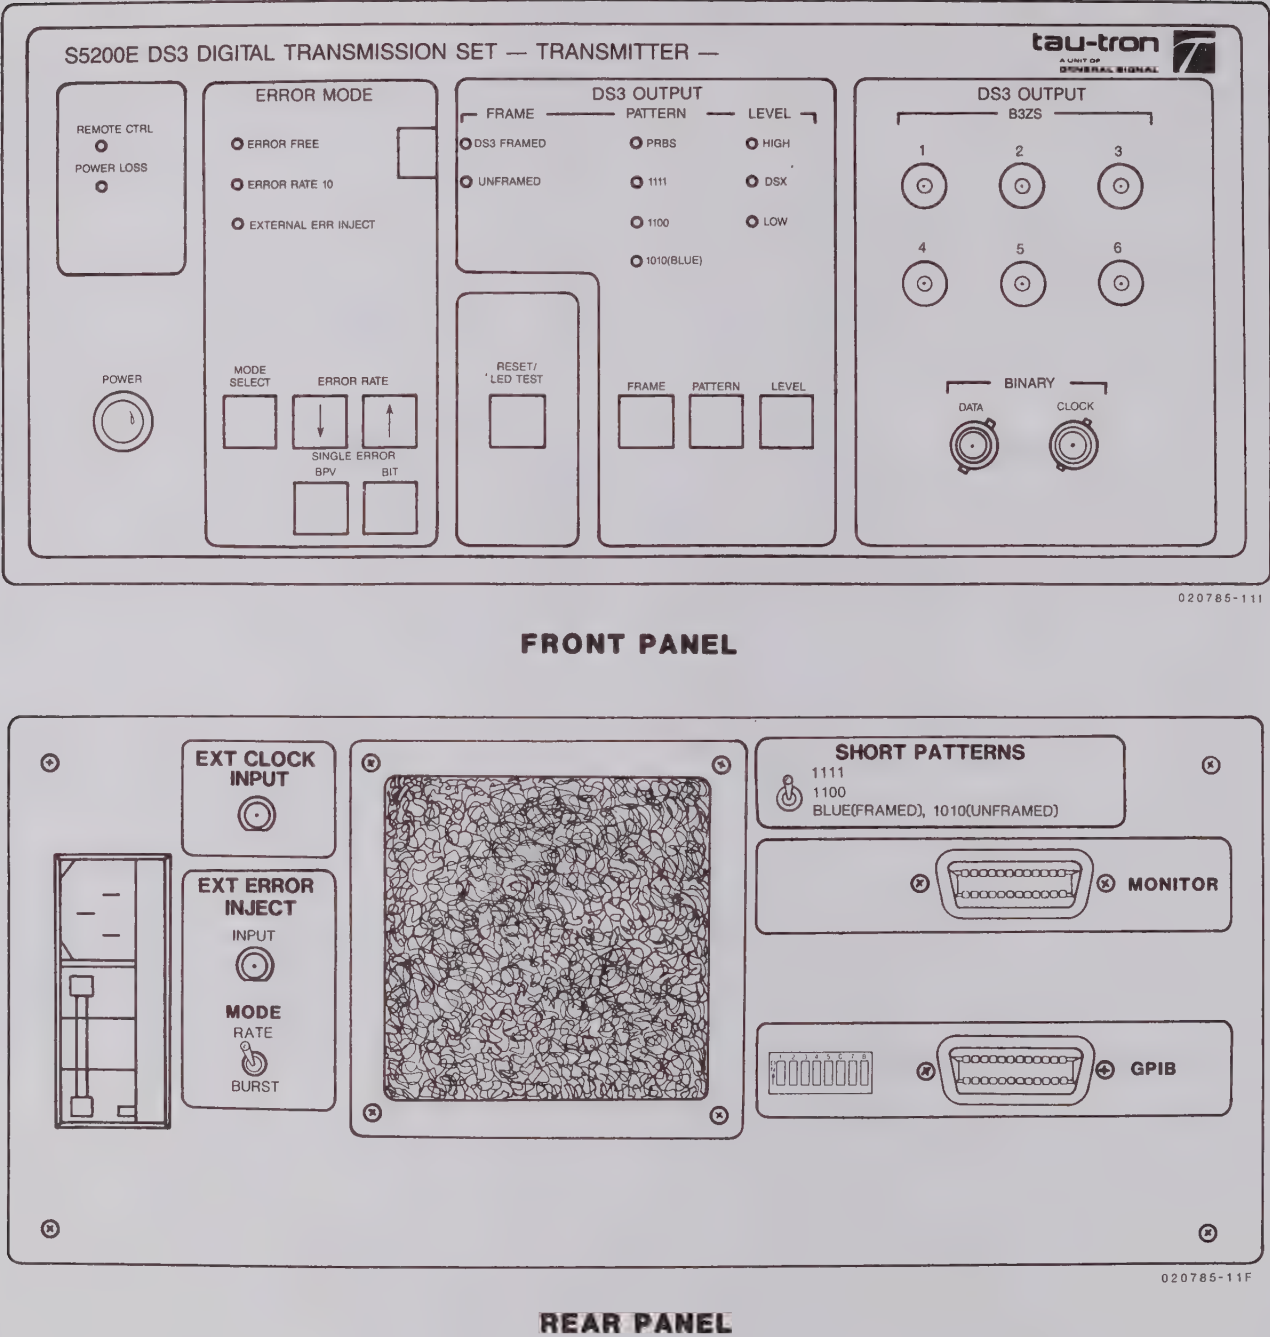

Fig. 1 - S5200E Transmitter Front and Rear View
2.08 The front and rear panels of the S5200E Transmitter are illustrated in Fig. 1. A review of the following section will acquaint the operator with the complete specifications of the transmitter.